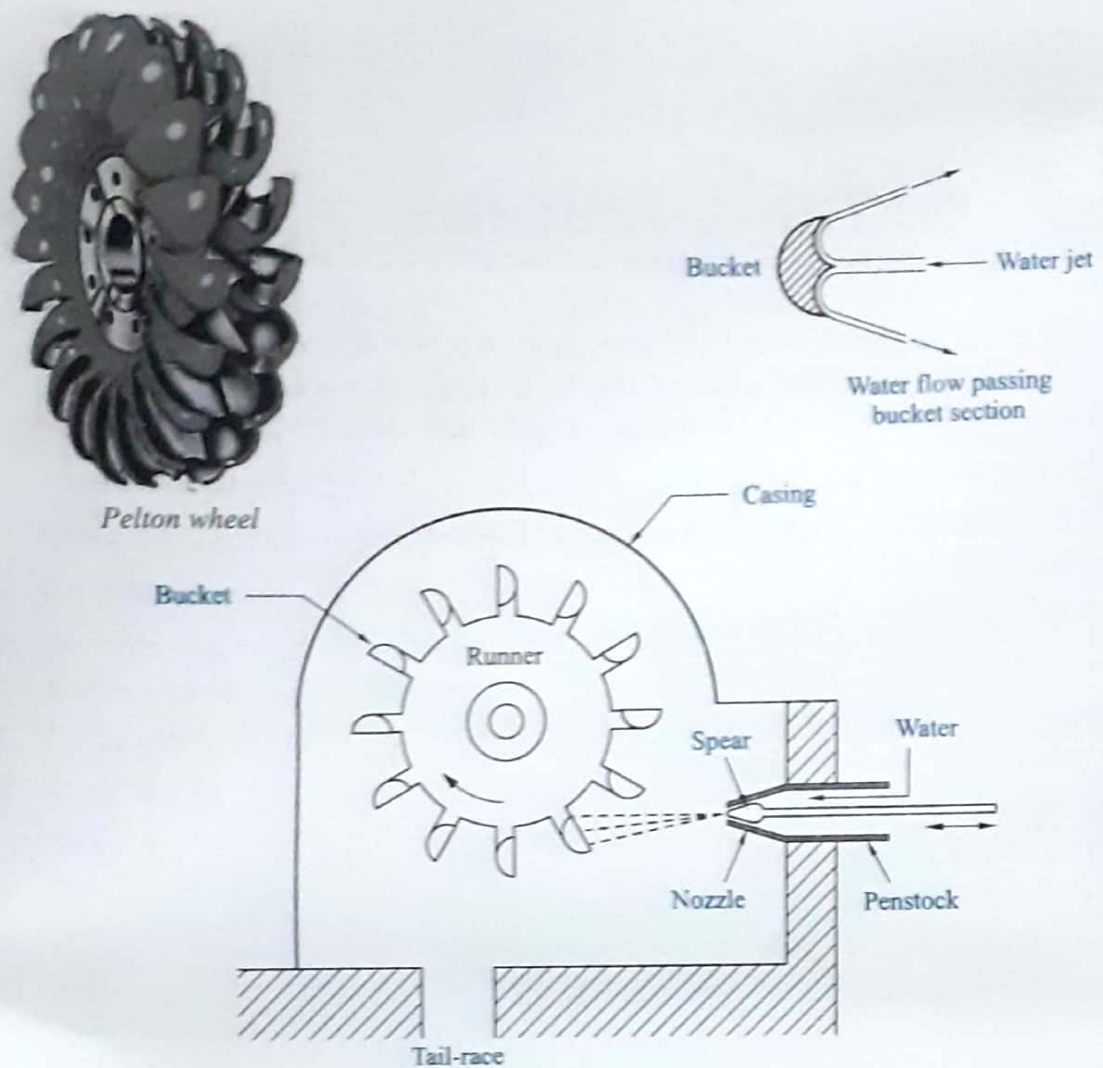

Fig. 6.1 Pelton wheel
*Pelton wheel* is a tangential flow impulse turbine, water flows along the tangent to the path of the runner. It operates under a high head of water and therefore requires a comparatively less quantity of water. Water is conveyed from the reservoir to the turbine through a *penstock*. The penstock is connected to a branch pipe fitted with a nozzle. A powerful jet issue out of the nozzle, impinges on the buckets provided on the periphery of a wheel as shown in fig. 6.1. The shape of the bucket is that of a double hemispherical cup having dividing wall known as splitter at the center. The splitter